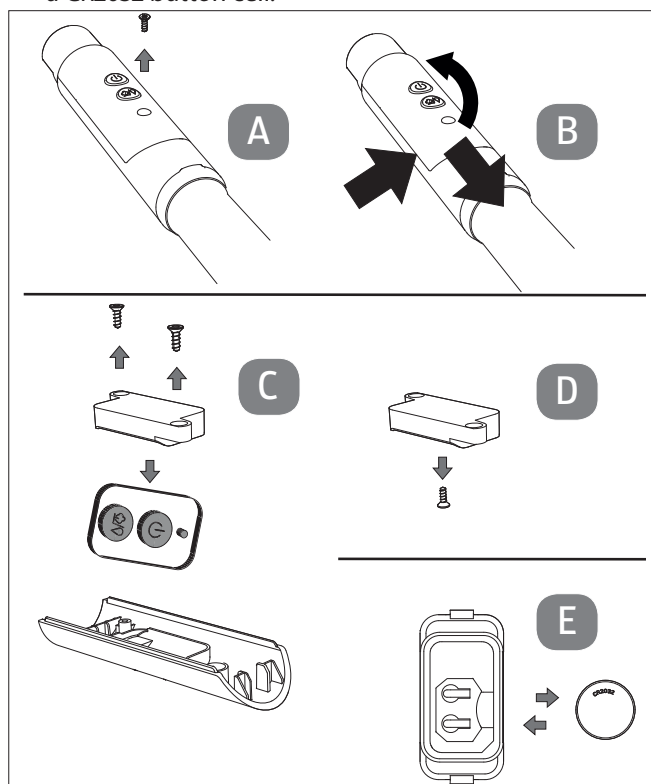

Fig. 14 – Replacing the battery in the handle
- ▶ Remove the screw under the control panel on the handle using the Phillips screwdriver (see Fig. 14, A).
- ▶ Remove the remote control compartment from the handle (see Fig. 14, arrow B):
- ▶ Unscrew the two screws (see Fig. 14, C) to remove the remote control.
- ▶ Remove the small screw on the circuit board with a small Phillips screwdriver (see Fig. 14, D) and turn the circuit board over.
- ▶ Replace the button cell (see Fig. 14, E).